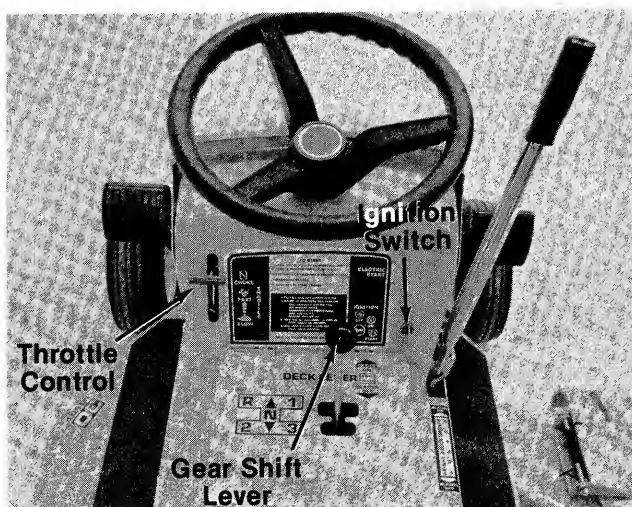

FIGURE 18.
CONTROLS (See figure 18)
The throttle control is used to regulate the engine speed and to activate the choke on the engine. To get maximum efficiency from cutting, the throttle should be in the FAST position when operating the mower. Pushing the throttle all the way forward past FAST, will choke the engine. See figure 18.
Electric Start Model. The key must be turned to the "START" position to start the engine. After the engine is running, let the key return to the "ON" position. Turn the key to the "OFF" position to stop the engine. Remove the key when the mower is not in use. See figure 18.
See figures 18 and 22.
6. Set the throttle control lever in the "CHOKE" position. See figure 18.
- b. **Electric Start Model.** Turn the ignition key to the "START" position. As soon as the engine starts, let the key return to the "ON" position. See figure 18.